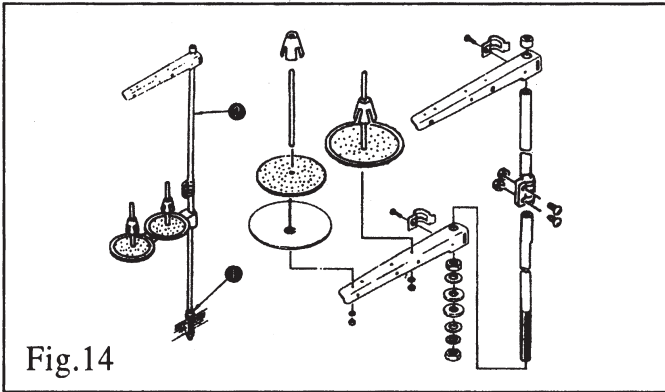

Fig.14
- 1)Turn stitch length dial①in the direction of the arrow,and align the desired number to marker dot ④ on the machine arm.
- 3)when you want to decrease the stitch length, turn stitch length dial①while pressing feed lever②in the direction of the arrow.
12.INSTALLING THE THREAD STAND(FIG.14)